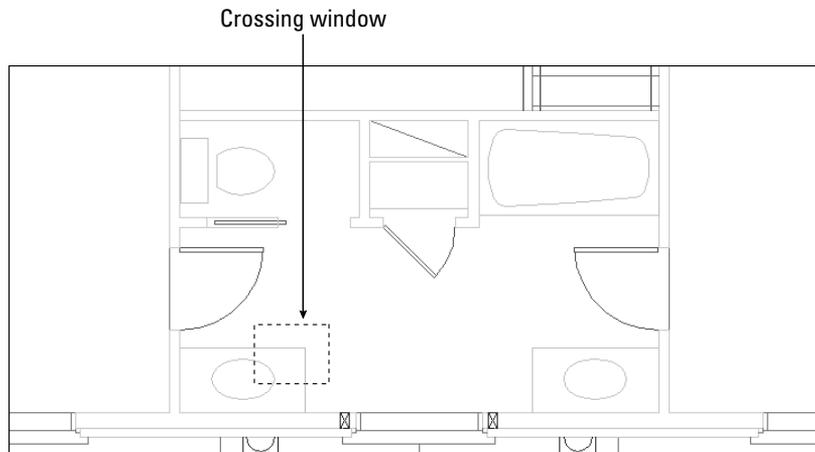
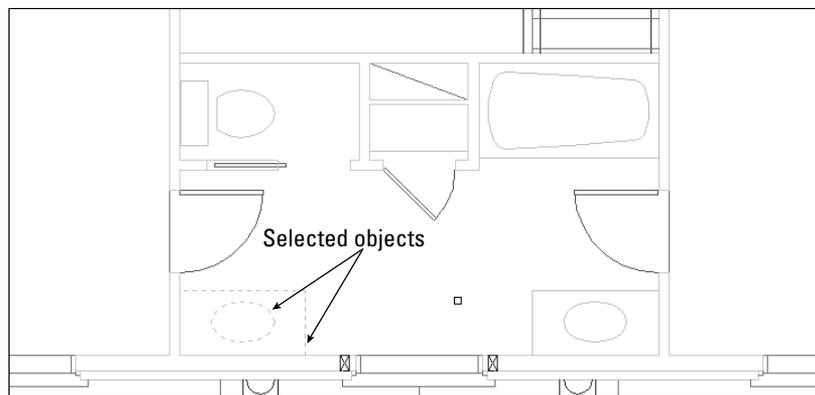

Figure 9-15: Selecting objects with a crossing window. The crossing window selects any objects that lie within or partly within the window.
Figure 9-16: The selected objects are highlighted.
- ♦ **Crossing:** Crossing enables you to pick two diagonal corners that define a window. All objects entirely or partly within the window are selected. Figure 9-15 shows the process of picking the window. Figure 9-16 shows the result—the selected objects are highlighted.